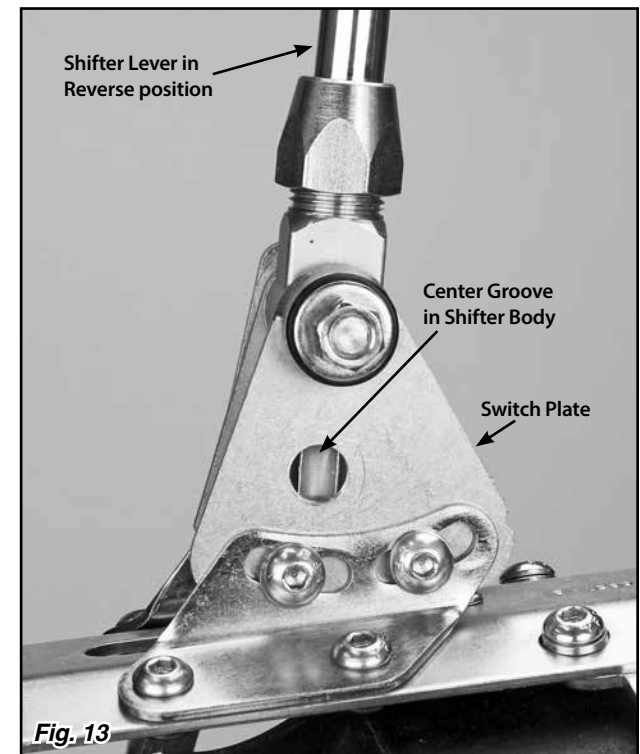

Fig. 13
Step 19: Put the shifter lever into the Reverse position. Reposition the switch plate so the hole in the switch plate lines up with the center groove in the shifter body. **Fig. 13** Screw the provided aluminum adjuster plug into the neutral safety switch opening. Wiggling the switch plate slightly forward and back while you are screwing the aluminum adjuster plug in will help get the shifter body centered on the adjuster plug. **Fig. 14**